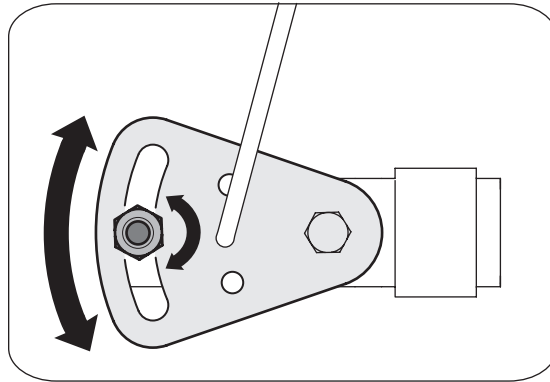

Figure 15
If the full range of speeds (forward and reverse) cannot be achieved, refer to the Figure 15 and adjust the shift cable as follows:
2. Loosen the hex nut on the shift cable index bracket. See Fig. 15.